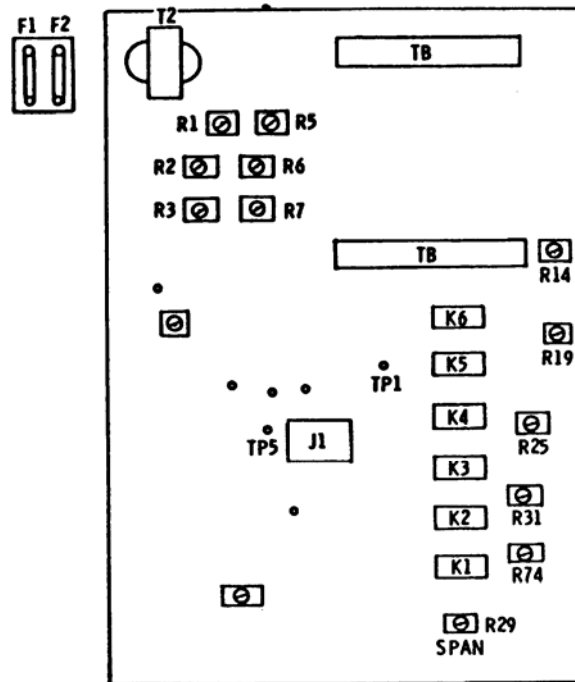

Figure 7. Adjustment locations.
Adjustments in (1) through (3) below are for each TI cell and are to be performed at 15,000 pounds with load cell No. 3 installed. If an indication within limits specified cannot be obtained, adjust R29 SPAN (fig. 7). R29 SPAN affects all three TI cell adjustments. If R29 SPAN is adjusted, repeat steps (1) through (3) below until no further adjustments are necessary.
(1) Loosen six screws on front of TI and remove front cover.
- (2) Rotate **POUNDS** thumbwheel to **15,000** and apply force for **NULL** indication.
- (3) Adjust R5 (fig. 7) for an indication within limits specified.
- (4) Adjust R6 (fig. 7) for an indication within the limits specified. (R)
- (5) Adjust R7 (fig. 7) for an indication within the limits specified. (R)
- (6) Linearity adjustments:
- (a) Apply a 10,000 pound load to cells, set **POUNDS** thumbwheel to **10,000** and adjust R31 (fig. 7) for null indication. (R)
- (b) Apply a 20,000 pound load to cells, set **POUNDS** thumbwheel to **20,000** and adjust R25 (fig. 7) for null indication. (R)
(2) Connect oscilloscope between TP1 (red lead) and TP5 (black lead) (fig. 7). If indication on oscilloscope is not less than 1.5 V p-p, perform **b** (1) below.
(3) Set **CELL SELECTOR** switch to **CELL 2** position.
(4) Adjust **ZERO** control for null indication on TI null meter. If indication on oscilloscope is not less than 1.5 V p-p, perform **b** (2) below.
(5) Set **CELL SELECTOR** switch to **CELL 3** position.
(6) Adjust **ZERO** control for null indication on TI null meter. If indication on oscilloscope is not less than 1.5 V p-p, perform **b** (3) below.
(1) Adjust R1 (fig. 7) for minimum waveform amplitude on oscilloscope. **ZERO** control (front panel) must be adjusted simultaneously to keep the meter at 0 indication.
(2) Adjust R2 (fig. 7) for minimum waveform amplitude on oscilloscope. **ZERO** control (front panel) must be adjusted simultaneously to keep the meter at 0 indication. (R)
(3) Adjust R3 (fig. 7) for minimum waveform amplitude on oscilloscope. **ZERO** control (front panel) must be adjusted simultaneously to keep the meter at 0 indication. (R)
Adjustments in (1) through (3) below are for each TI cell and are to be performed at 50,000 pounds with load cell No. 4 installed. If an indication within limits specified cannot be obtained, adjust R29 SPAN (fig. 7). R29 SPAN affects all three TI cell adjustments. If R29 SPAN is adjusted, repeat (1) through (3) below until no further adjustments are necessary.
(1) Adjust R5 (fig. 7) for an indication within limits specified. (R)
(2) Adjust R6 (fig. 7) for an indication within limits specified. (R)
(3) Adjust R7 (fig. 7) for an indication within limits specified. (R)
(4) Linearity adjustments:
(a) Apply a 10,000 pound load to cells, set **POUNDS** thumbwheel to **10,000** and R31 (fig. 7) for a null indication. (R)
(b) Apply a 20,000 pound load to cells, set **POUNDS** thumbwheel to **20,000** and adjust R25 (fig. 7) for a null indication. (R)
(c) Apply a 30,000 pound load to cells, set **POUNDS** thumbwheel to **30,000** and adjust R19 (fig. 7) for a null indication. (R)
(d) Apply a 40,000 pound load to cells, set **POUNDS** thumbwheel to **40,000** and adjust R14 (fig. 7) for a null indication. (R)